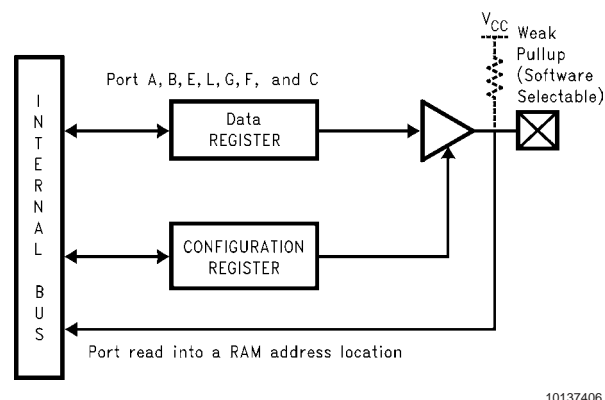

FIGURE 3. I/O Port Configurations
The device contains up to six bidirectional 8-bit I/O ports (A, B, C, E, G and L) and one 4-bit I/O port (F), where each individual bit may be independently configured as an input (Schmitt trigger inputs on ports L and G), output or TRI-STATE under program control. Three data memory address locations are allocated for each of these I/O ports. Each I/O port has three associated 8-bit memory mapped registers, the CONFIGURATION register, the output DATA register and the Pin input register. (See the memory map for the various addresses associated with the I/O ports.) Figure 3 shows the I/O port configurations. The DATA and CONFIGURATION registers allow for each port bit to be individually configured